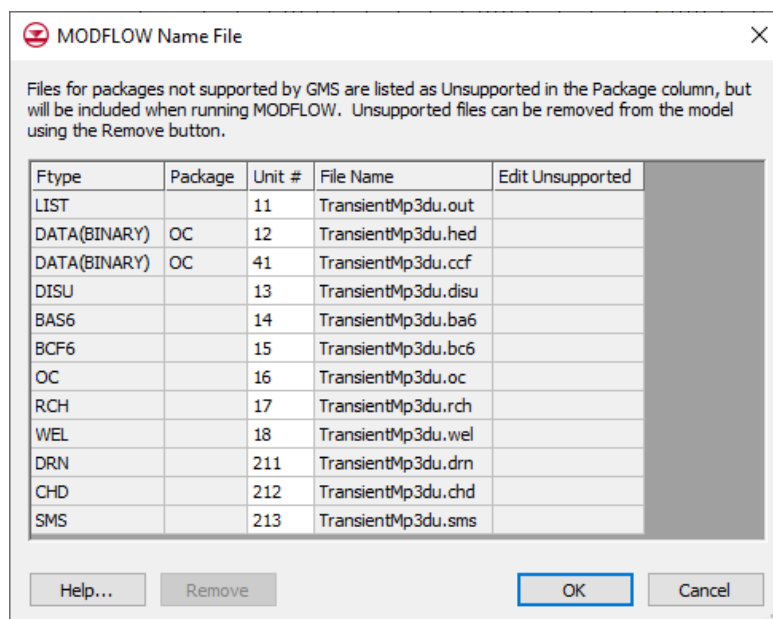

Figure 6 MODFLOW Name File dialog
2. Scroll down so that unit numbers greater than “199” are visible (Figure 6).